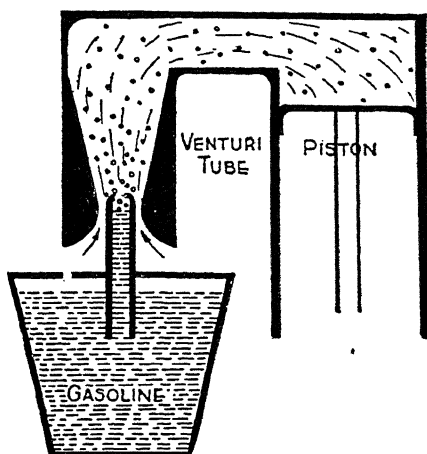

Fig. 22. Cross section of Venturi Tube with Gasoline Nozzle as Used in Carburetor Design
*Venturi Tube.* It has long since been learned that air may be passed through a tube, the form of a venturi tube, shown in Fig. 21, with great ease and when so passed will develop certain desired results. The problem in carburetor design is to secure the proper suction from the gasoline needle at slow speeds and then at the same time to permit enough air to enter at high speeds so that the desired ratio of air and fuel may be maintained. The venturi tube lends itself to this combination of several extremes. Fig. 21 shows a cross section of such a tube and it will be found in all cross sections of carburetors shown in this book. Fig. 22 shows a simple carburetor which makes use of the principle of the venturi tube. The nozzle in this case is located in the venturi tube, much after the fashion of all venturi tube and gasoline tube construction. It will be noted that as the piston descends into the cylinder and suction is set up around the nozzle where it is placed in the lower part of the venturi, air enters the venturi and picks up the gasoline as it passes.